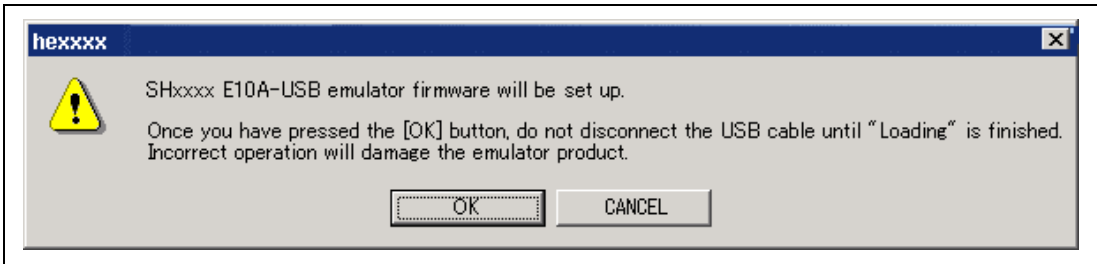
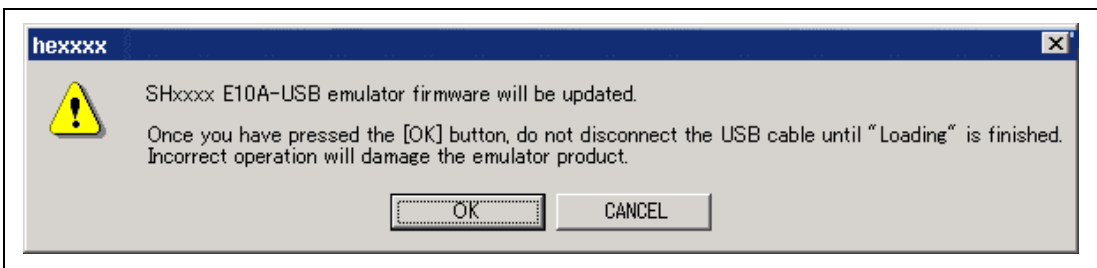

Figure 3.43 Dialog Box to Confirm Setting up of the Emulator Firmware
Figure 3.44 Dialog Box to Confirm Updating of the SHxxxx Emulator Firmware
9. The dialog box shown in figure 3.43 is displayed if no product groups have been installed in the emulator at the time of purchase or if the SHxxxx license has been installed in the emulator but the emulator firmware has been set up for a different device group. The dialog box shown in figure 3.44 is displayed if an old version of the emulator firmware has been set up in the emulator. Clicking the [OK] button sets up the emulator firmware.